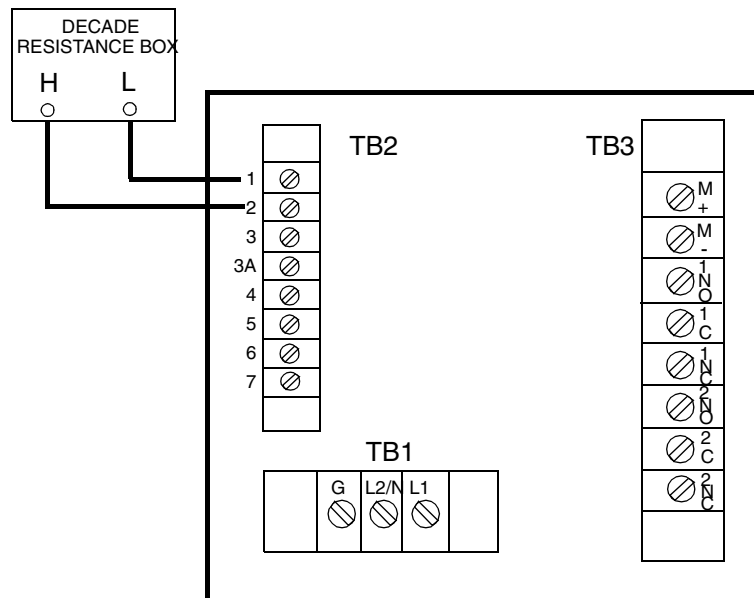

Figure 20. Decade Box Connections
1. Connect a 100 Ω precision resistor between Terminals 1 and 2. See Figure 20.
9. Replace the 100 Ω resistor with a 150 Ω precision resistor. See Figure 20.
12. Replace the 150 Ω resistor with a 200 Ω precision resistor. See Figure 20.